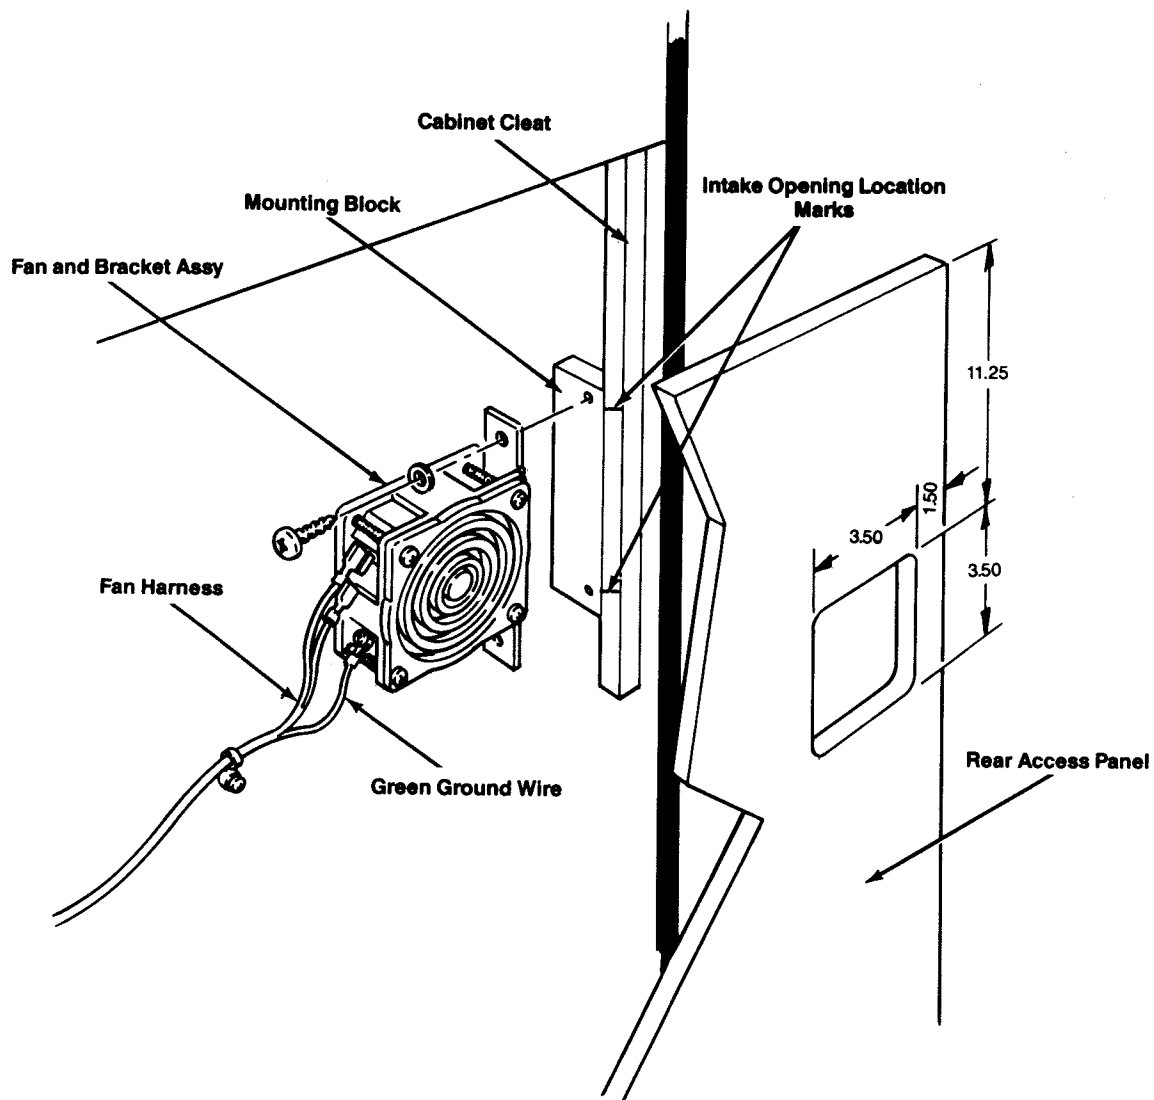

Figure 10 Modifying the Rear Access Panel and Installing the Fan
Perform the following procedure to modify the rear access panel to provide a fan intake opening (see Figure 10).
1. Measure and mark the rear access panel for the fan intake opening as shown in Figure 10.
Perform the following procedure to install the fan in the game cabinet (see Figure 10).